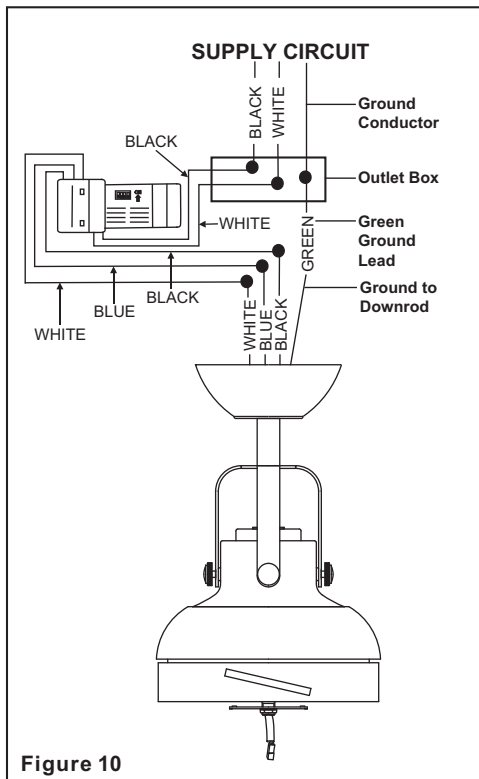

Figure 10
Step 2. (Fig. 10) Motor to Receiver Electrical Connections: Connect the Black wire from the fan to Black wire marked "TO MOTOR L". Connect the White wire from the fan to the White wire marked "TO MOTOR N" from the receiver. Connect the Blue wire from the fan to the Blue wire marked "For Light" from the receiver. Secure wire connections with the plastic wire nuts provided.
Step 3. (Figure 10) Receiver to House Supply Wires Electrical Connections: Connect the black (hot) wire from the ceiling to the black wire marked "AC in L" from the receiver. Connect the white(neutral) wire from the ceiling to the white wire marked "AC in N" from the Receiver. Secure the wire connections with the plastic wire nuts provided.
Step 4. (Figure 10) If your outlet box has a ground wire (green or bare copper) connect it to the fan ground wires; otherwise connect the hanging bracket ground wire to the mounting bracket. Secure the wire connection with a plastic nut provided. After connecting the wires spread them apart so that the green and white wires are on one side of the outlet box and black and blue wires are on the other side. Carefully tuck the wire connections up into the outlet box.